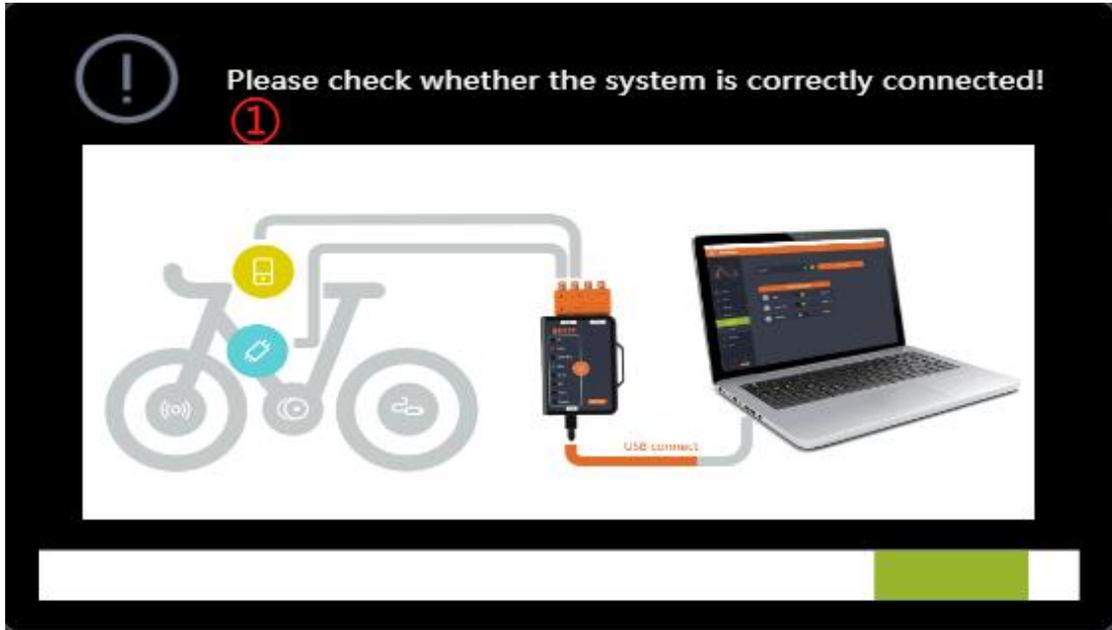

Fig. 3-1 Component inspection
- (1) After logging in, the system will inspect the connection of all components. At the same time, it will prompt the user to check whether the system is correctly connected (Fig.3-1).